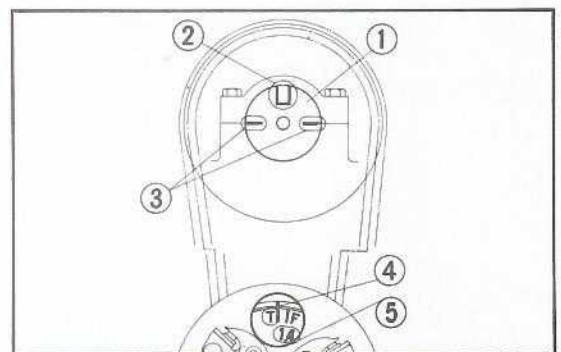

Fig. 3-40 ① Camshaft
- c. Assemble the cam chain on the sprocket before mounting the cam sprocket. Place the camshaft on top of the camshaft holder and align the timing index line on the right side of the camshaft, so that it is parallel to the top surface of the camshaft holder. (The key groove must be toward the top). In this condition the base circle of the No. 4 cam is toward the top and the No. 1 cam is in the overlap position. (Fig. 3-40, 41)